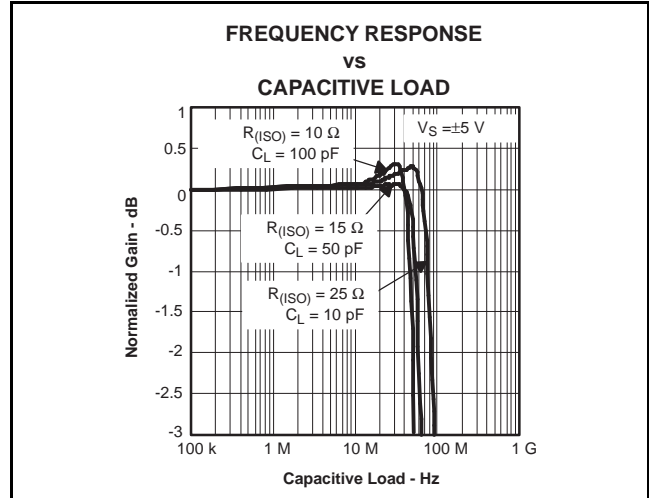

Figure 88. Isolation Resistor Diagram
4. **Connections to other wideband devices on the board may be made with short direct traces or through onboard transmission lines.** For short connections, consider the trace and the input to the next device as a lumped capacitive load. Relatively wide traces (50 mils to 100 mils) should be used, preferably with ground and power planes opened up around them. Estimate the total capacitive load and set R_{ISO} from the plot of recommended R_{ISO} vs capacitive load (See Figure 88). Low parasitic capacitive loads (< 4 pF) may not need an R_{ISO} , since the THS4211 is nominally compensated to operate with a 2-pF parasitic load. Higher parasitic capacitive loads without an R_{ISO} are allowed as the signal gain increases (increasing the unloaded phase margin). If a long trace is required, and the 6-dB signal loss intrinsic to a doubly-terminated transmission line is acceptable, implement a matched impedance transmission line using microstrip or stripline techniques (consult an ECL design handbook for microstrip and stripline
layout techniques). A 50-Ω environment is normally not necessary onboard, and in fact a higher impedance environment improves distortion as shown in the distortion versus load plots. With a characteristic board trace impedance defined on the basis of board material and trace dimensions, a matching series resistor into the trace from the output of the THS4211 is used as well as a terminating shunt resistor at the input of the destination device. Remember also that the terminating impedance is the parallel combination of the shunt resistor and the input impedance of the destination device: this total effective impedance should be set to match the trace impedance. If the 6-dB attenuation of a doubly-terminated transmission line is unacceptable, a long trace can be series-terminated at the source end only. Treat the trace as a capacitive load in this case and set the series resistor value as shown in the plot of R_{ISO} vs capacitive load (See Figure 88). This setting does not preserve signal integrity or a doubly-terminated line. If the input impedance of the destination device is low, there is some signal attenuation due to the voltage divider formed by the series output into the terminating impedance.